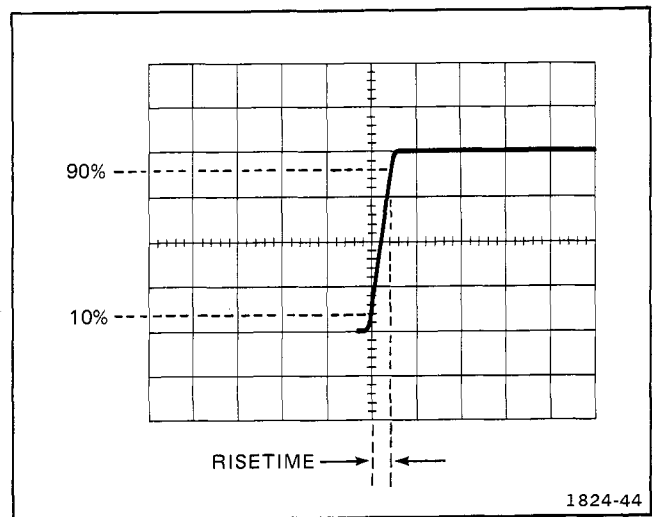

Fig. 5-1. Idealized display of risetime.
b. Adjust generator + Transition Amplitude for a 4 division vertical display on graticule. Adjust TRIGGERING LEVEL for stable display. See Fig. 5-1.
c. CHECK—risetime (time between 10 and 90% amplitude points) should be ≤ 36 nanoseconds (36 ns equals 1.8 minor horizontal division). See Fig. 5-1.